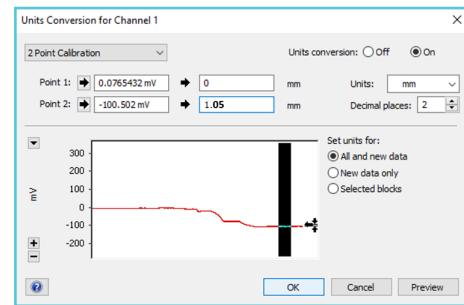

Figure 76.
Step 12: Now, Set the units for Point 1 and Point 2 as 0 and 1.05 respectively (if mm should be the unit) and click OK. The number of decimal places for the units can be edited according to preference. The transducer is calibrated and ready for the experiment (figure 76).